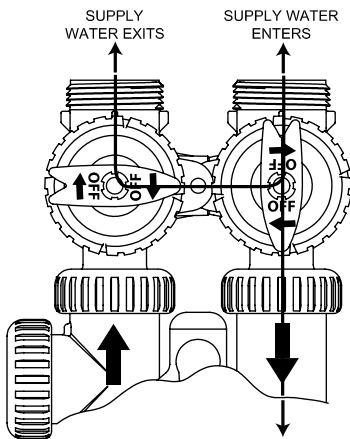

FIGURE 3
- Step 2: Press and Hold the REGEN button on the Triton until you hear the motor engage. This will initiate an immediate manual regeneration of the system. Refer to the table on page 9 for Triton cycles of operation. Turn the bypass valve to "diagnostic" mode position (see figure 3 on page 12). (You should hear water entering the system.) Wait a few minutes to ensure the control valve can draw water and does not leak. Allow the system to backwash until the water going to drain is clear. If everything is working, press and release the REGEN button. You will hear the motor engage and move the piston into the "Brine Dn" position. Check the brine line for leaks or suction. You should hear the valve drawing brine. Continue to skip cycles by pressing and releasing the REGEN button (wait for the motor to stop before pressing REGEN) until you reach the "Brine Fill" position. This ensures that water will go to the brine tank. Fill tank 3" to 4" above salt grid. Make sure enough water is in the brine tank to dissolve the correct amount of salt for regeneration (1 gallon of water will dissolve 3 lbs. of sodium chloride). Allow the brine tank to fill with water to air check level. If the system needs 6 lbs. of salt to regenerate, then at least 2½ gallons of water must be in the brine tank above air check in the brine well. The extra ½ gallon is an additional measure for evaporation or loss. ($6 \div 3 = 2$ gallons of water plus ½ gallon). Fill the brine tank with salt. (We recommend potassium chloride (KCl) instead of rock salt.) Once the brine tank is filled to this level, press REGEN once more to return the valve to service. You should hear the motor engage for a short period and then a long period.
Figure 3. *Diagnostic Position:* The inlet handle points in the direction of flow and the outlet handle points to the center of bypass valve, system water pressure is allowed to the control valve and the plumbing system while not allowing water to exit from the control valve to the plumbing.